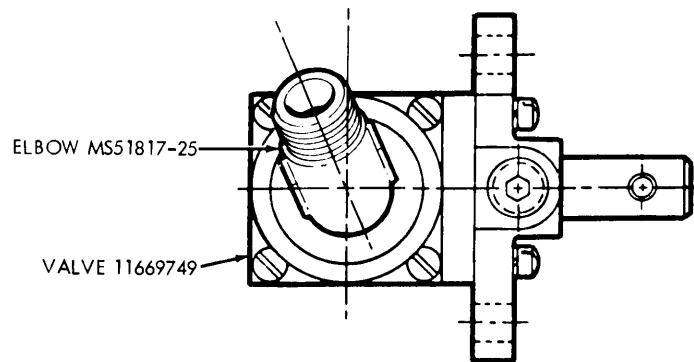

Figure 14. Installation of 45° Elbow in Manual Shut-Off Valve
- (1) Secure valve 11669749 in soft-jawed vise.
- (2) Apply teflon tape on 45° elbow MS51817-25, install elbow in valve, and position as shown in figure 14.